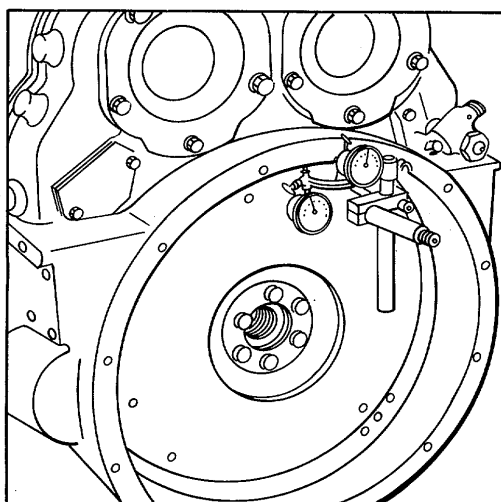

Figure 5. Checking Flywheel Housing Concentricity
a. Refer to Fig. 5 and thread the base post J 9737-3 tightly into one of the tapped holes in the flywheel. Then assemble the dial indicators on the base post.